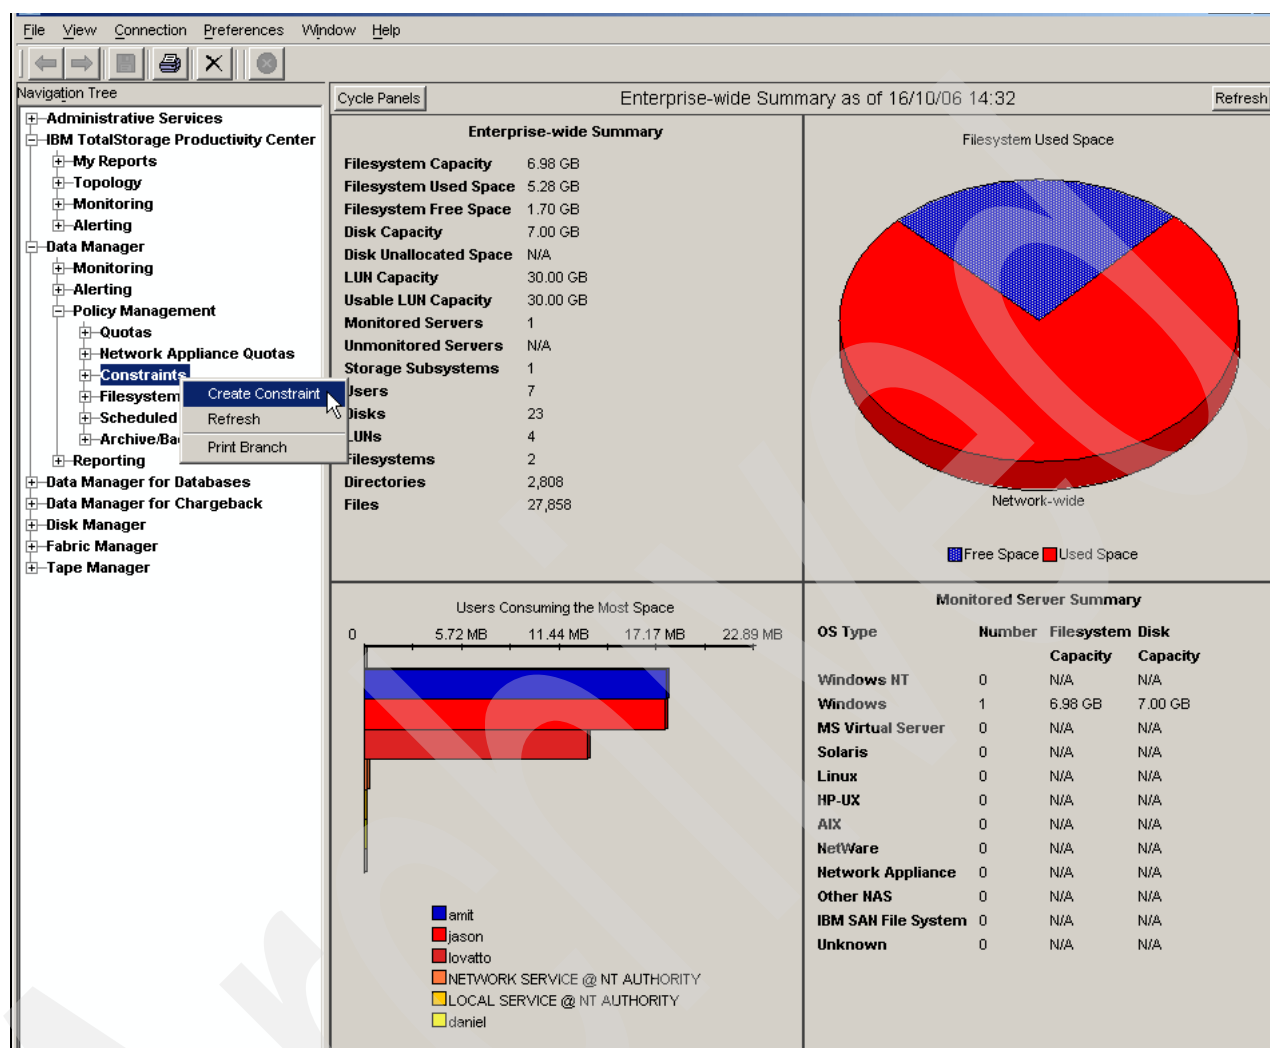

Figure 2-38 Create a constraint
1. Start by creating a new constraint as in Figure 2-38.